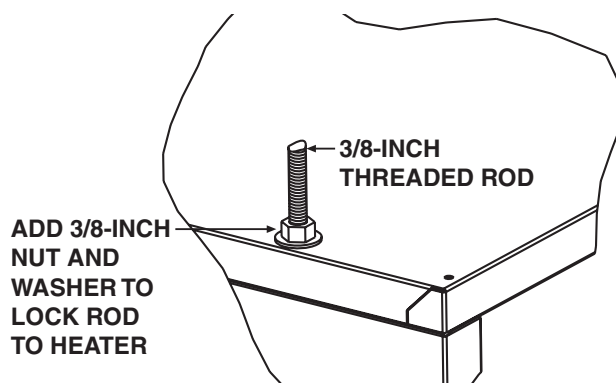

Figure 4. Heater Suspension Using Field-Supplied Threaded Rods
- The heater may be suspended from 3/8-inch threaded rods using four-point suspension. The recommended maximum rod length is 6 feet (1.8 meters). The length of the threaded rod extending into the heater **MUST NOT** exceed 1/2 inch (13 mm). Ensure that the threaded rods are locked to the heater as shown in Figure 4.